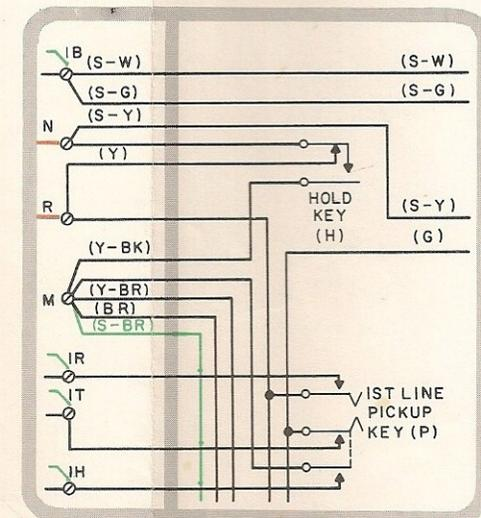

Fig. 1 - Wired for 1A Key System
2.01 The 565HDR set is furnished wired for 1A1 key systems. These sets have the red and black ringer leads wired respectively to terminals RR and RT. Telephone sets wired with the black and red ringer leads on the RR and RT terminals will have a plus (+) sign after the code number on base of set. Conversion tables used in conjunction with Fig. 1 and 2 are for various re-arrangements.